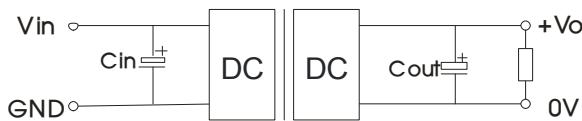

Fig. 2
① By measuring method is used for Ripple and Noise test, please refer to Fig. 2. for recommended circuit.
All the DC-DC converters of this series are tested before delivery using the recommended circuit shown in Fig. 2. Input and/or output ripple can be further reduced by appropriately increasing the input & output capacitor values  $C_{in}$  and  $C_{out}$  and/or by selecting capacitors with a low ESR (equivalent series resistance). Also make sure that the capacitance is not exceeding the specified max. capacitive load value of the product.